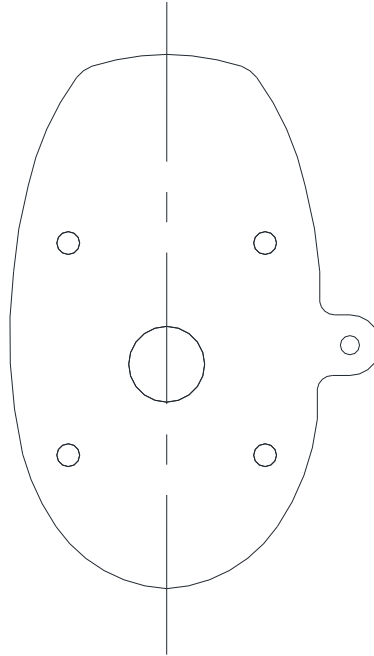

Figure 4: RSM Internal Flat Plate
3.1. Orient the RSM Internal Flat Plate (GA8-342030-021) as shown in Figure 4 below and strip off the paint from the top surface of plate. Treat the affected surface with MIL-DTL-81706 type I, class 1A solution (e.g. Henkel Alodine 1132) in accordance with the manufacturer's instructions.